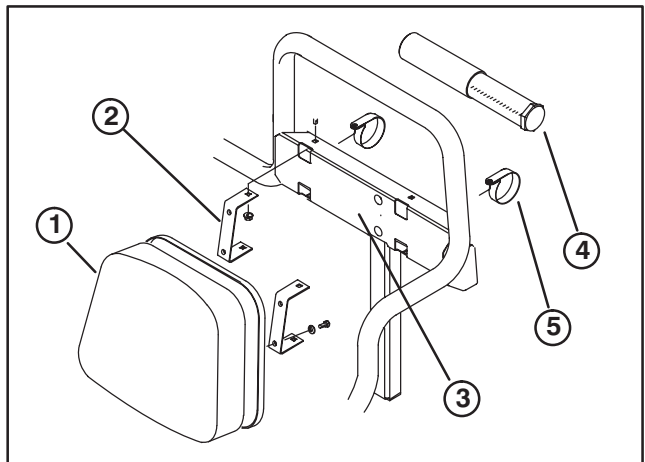

Figure 4
5. Remove (4) 1/4–20 x 3/4" lg. capscrews and 1/4" flat washers securing (2) seat back brackets to each seat back cushion (Fig. 4). Retain cushions and fasteners.